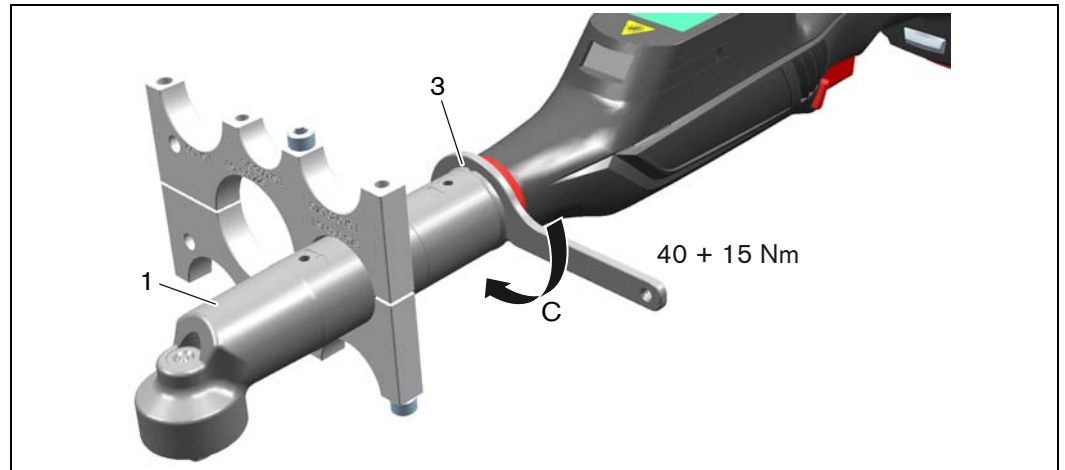

Fig. 4-4: Tightening the counter nut
5. Lock the angle screw head 1 in position by turning the counter nut 3 in the direction of arrow C (see figure 4-4).
6. Retighten the counter nut 3 (see figure 4-4).